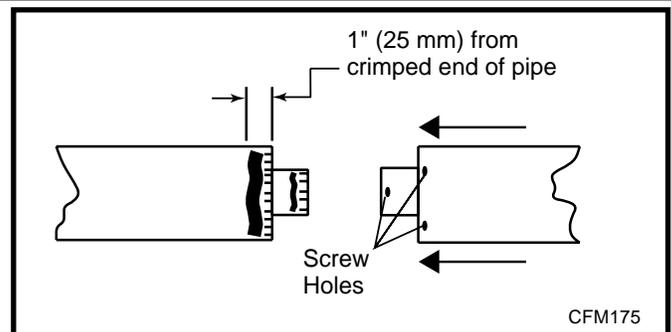

Fig. 16 Apply a bead of high temperature sealant.
Join the pipes using a 2" (51mm) overlap and secure the joints with three (3) sheet metal screws. (Fig. 16) Wipe off excess sealant.